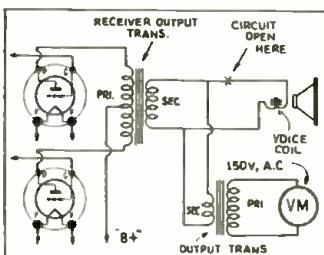

Fig. 7. Output indicator.
**O**UTPUT INDICATOR. Regular output meters are rather expensive and not always easy to obtain in a hurry. A standard A.C. voltmeter may be used by connecting it with a dynamic speaker output transformer, as in Fig. 7. The voltage will be stepped up enough so that a good reading can be had on a 0-150 V. scale instrument.